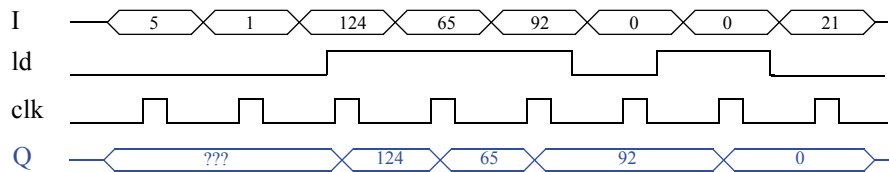

Figure 4.95
- 4.1. Trace the behavior of an 8-bit parallel load register with 8-bit input I , 8-bit output Q , and load control input ld by completing the timing diagram in Figure 4.95.